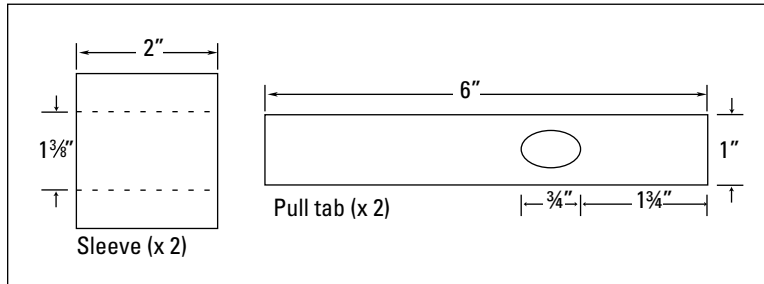

Figure 7-17:
8. Make a pull tab and sleeve (see Figure 7-17).